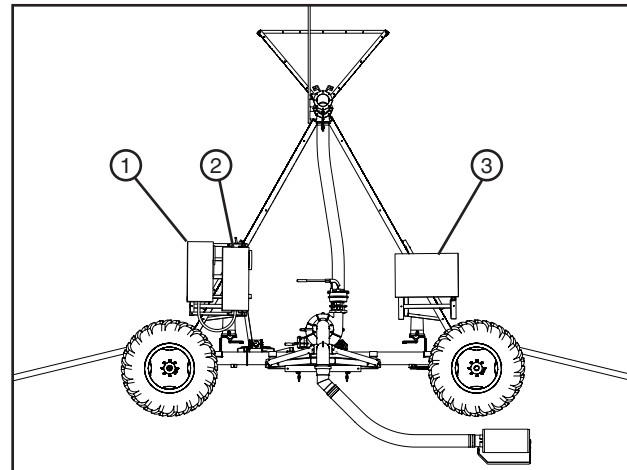

Figure 72-1 1. Cart Disconnect Panel
5. Move the cart disconnect panel switch to the ON position. See figure 72-1.
6. Move the pump panel disconnect switch to the ON position. See figure 72-1.
7. Turn the control panel disconnect switch to the ON position. See figure 72-1.